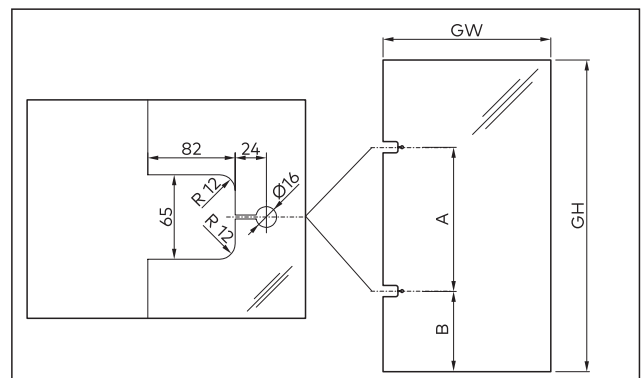

Fig. 10 Glass preparations for the frame with embedded mounting plate
2. Check the dimensions of glass preparation (Fig. 10).
1. Vertically mark the recesses for the mounting plates in the door frame. For dimensions A and B see Fig. 10.